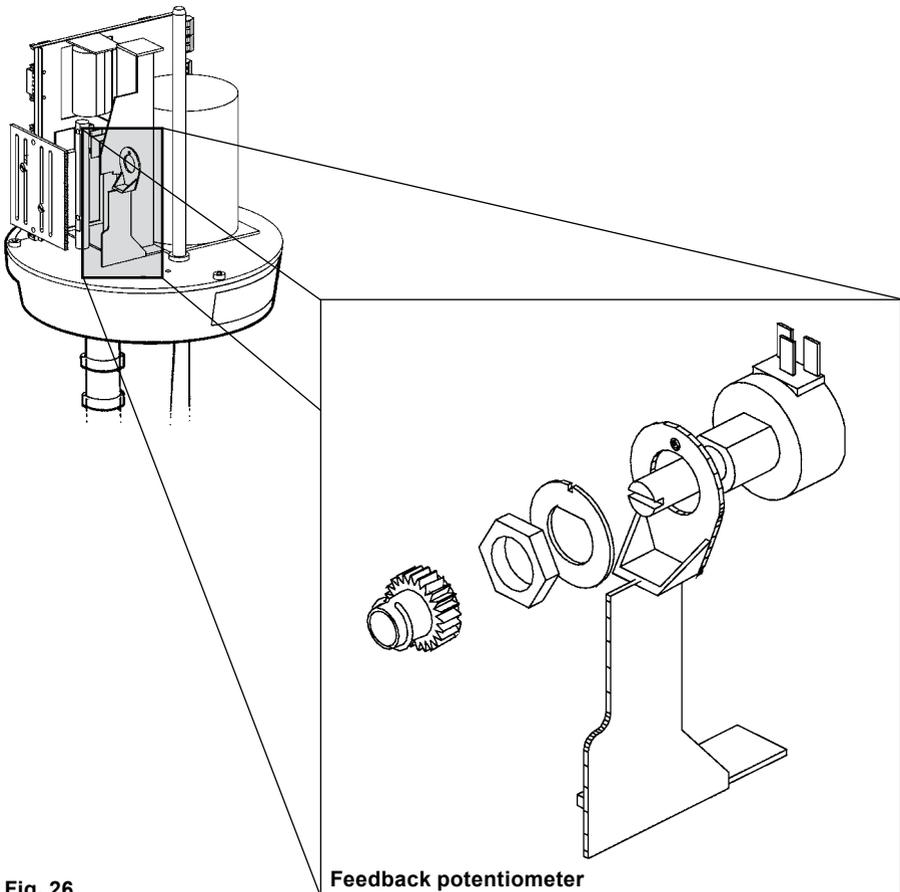
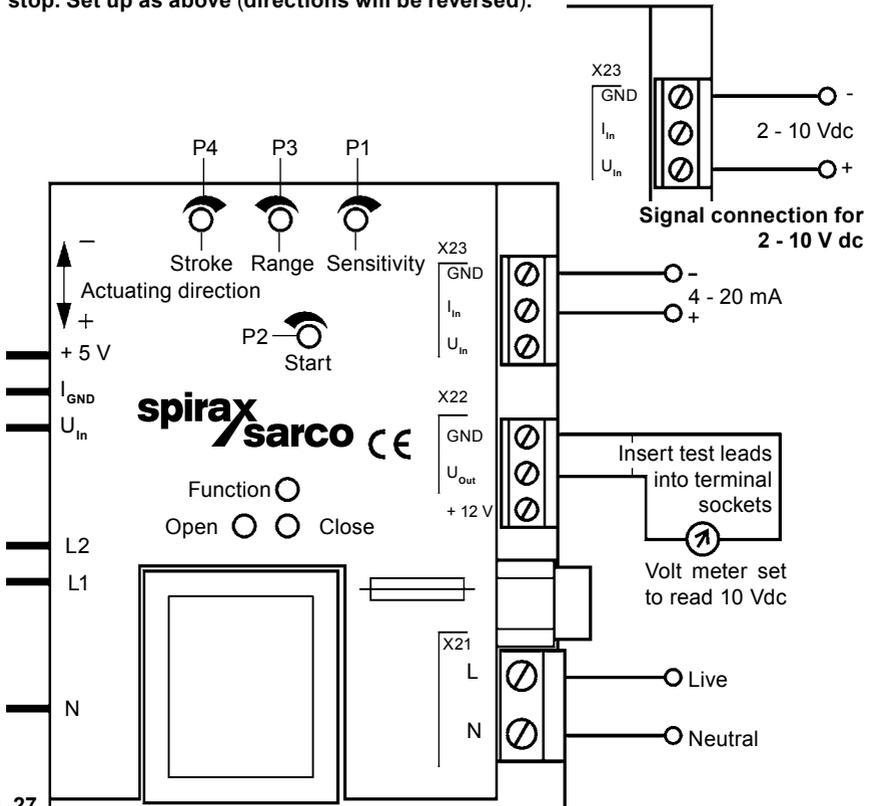

Fig. 26
Fig. 27
6. At this point the multimeter should read 0 V. If it does not turn the shaft of the feedback potentiometer until the multimeter reads the required 0 V (Figure 26). Adjust start potentiometer P2 (Figure 27) until the close LED just switches off.